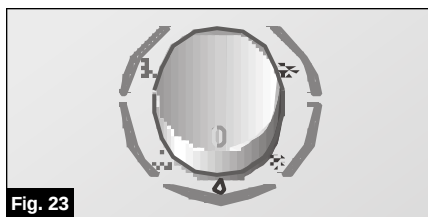

Fig. 23
- Select the dehumidification function  on the control knob, **Fig. 23**.